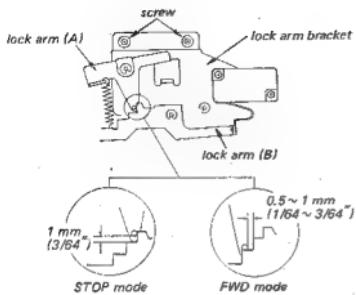

Fig. 3-9. Lock arm bracket position adjustment
1. Make sure that the clearance between the lock arm (A) and the lock arm (B) is $0.5 \sim 1 \text{ mm}$ ($1/64 \sim 3/64"$) in the FWD (or REV) mode. In the STOP mode the clearance between the lock arm (A) and the lock arm (B) should be approximately $1 \text{ mm} (3/64")$. See Fig. 3-9.
2. Loosen the two lock arm bracket holding screws, if necessary. See Fig. 3-9.